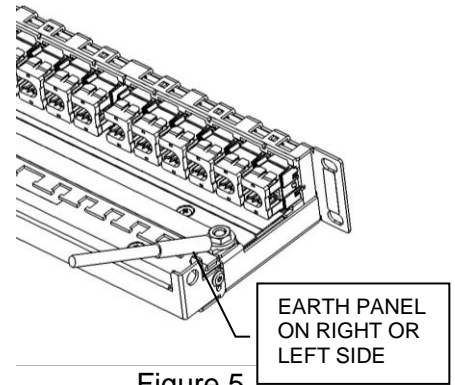

Figure 5
1. Individually earth (ground) each patch panel to cabinet earth (ground) position by securing grounding lug to panel grounding stud (see Fig. 5).